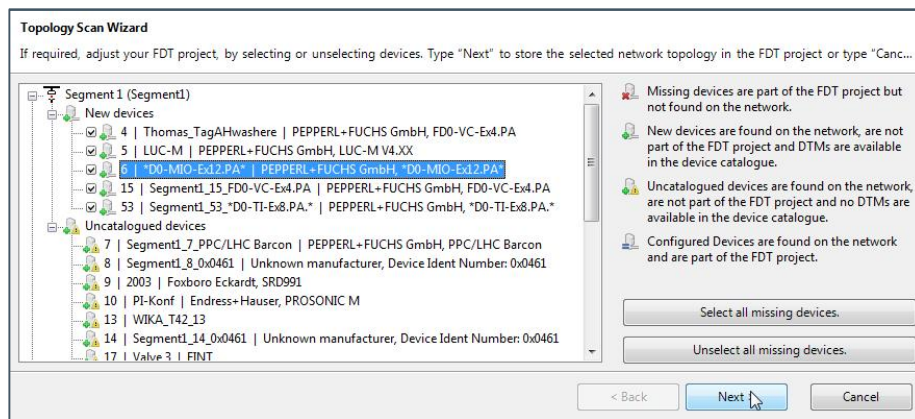

Figure 56: Confirm the found PROFIBUS PA devices
8) Click **Next** to confirm the found PROFIBUS PA devices (see: Figure 56: Confirm the found PROFIBUS PA devices).